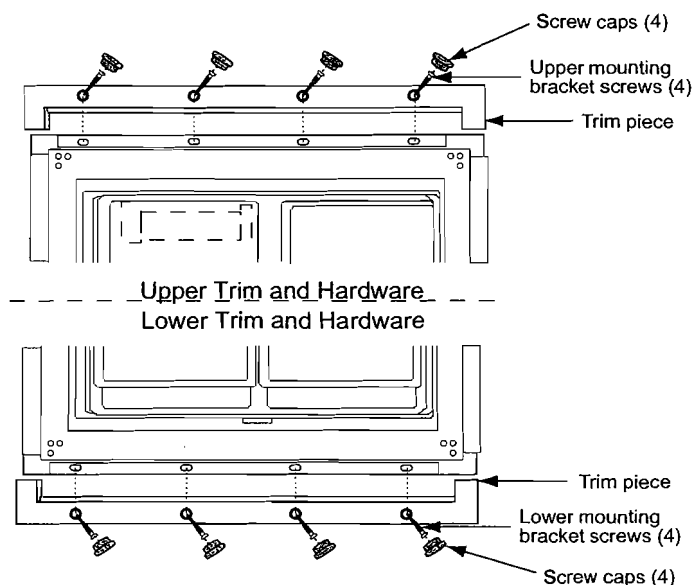

Figure 22. Upper and lower trim hardware.
3. Install the lower trim piece, mounting screws and plastic screw caps. See Figure 22.
4. Install the upper trim piece, mounting screws and plastic screw caps. See Figure 22.